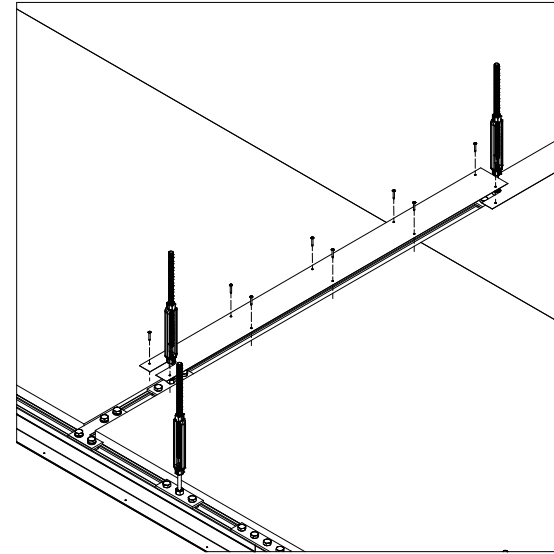

Fig 4
- 5.6** Install the top cover plate over the gap between panels and over the beams to create a flush, walkable surface. Secure the top cover plate along both edges using sharp-point, self-piercing framing screws (**Fig 4**).